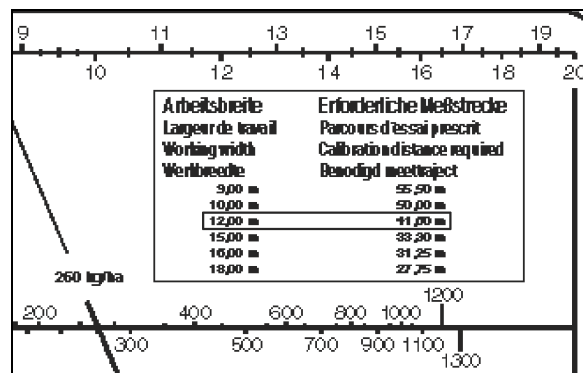

Fig. 65
3. You can obtain the required calibration distance 136 ft (41.6 m) for the desired working width 40 ft (12 m) from the chart (Fig. 65) of the nomogram or the rear side of the calculator disc rule.